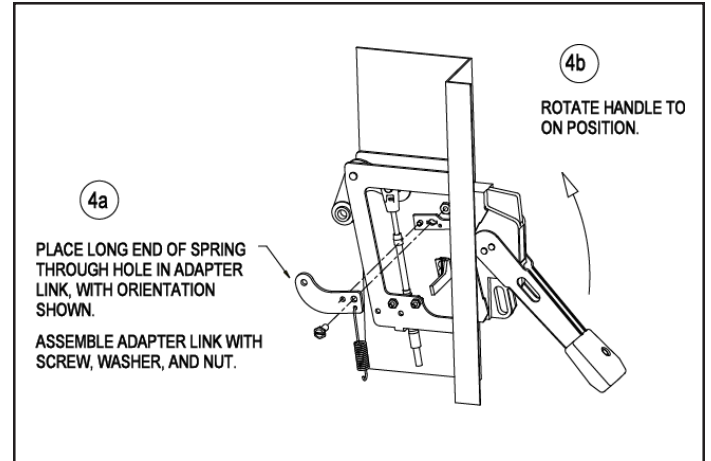

Fig. 1-4 Assembly of Spring and Adapter Link to Actuator Link
4. Connect long end of the spring through hole in the adapter link. See Fig. 1-4. Attach adapter to actuator link using the 1/4-20 pan head screw and nut. Rotate handle to on position when attaching the spring.